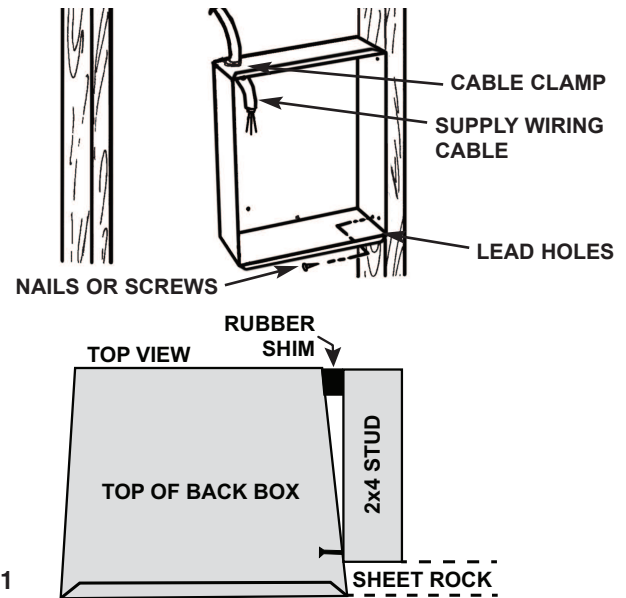

Figure 1
3. Power supply may enter back-box through any knockout provided (see Figure 1).
2. To allow box to fit squarely against wall stud, use the shim provided with the heater as shown in Figure 1.
4. Position back-box against side with studs and secure with nails or screws as shown in Figure 1.
**NOTE:** The back-box must be installed to a wall stud and secured using nails or screws as shown in Figure 1.
1. The edge of the back-box must be installed flush with the finished surface. If desired, a shim is provided with heater to allow back-box to fit squarely against wall stud. (See Figure 1).